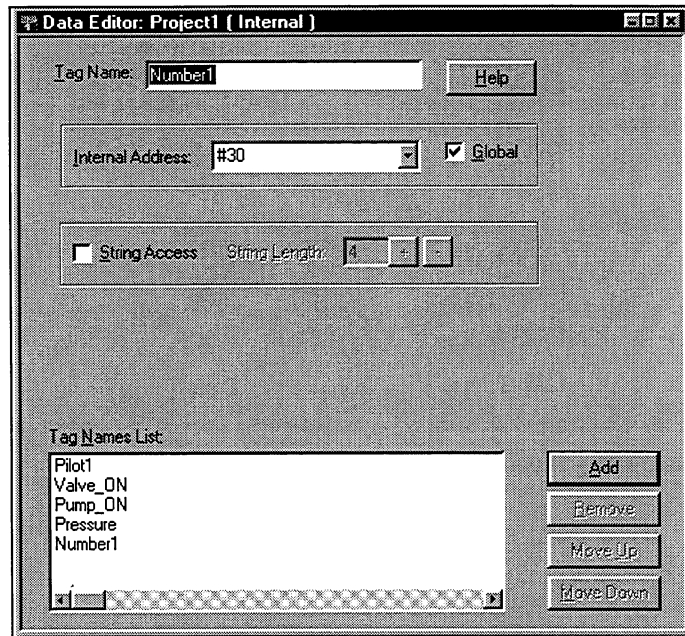

Figure 4-12. Internal Driver Form
13. Click the Add button to add the tag to the Name list box, as shown in Figure 4-12.